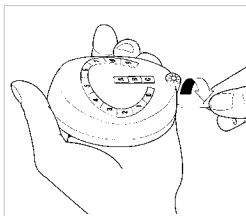

Fig. 2
- Unscrew the retaining screw Fig.2